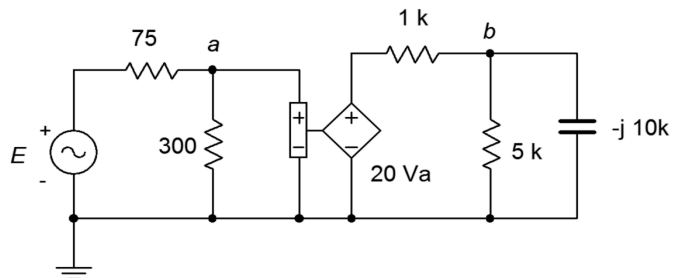

Figure 5.19
37. In the circuit of Figure 5.19, determine the current flowing into the 1 k resistor if the source $E = 6\angle 0^\circ$.
38. In the circuit of Figure 5.19, determine v_b if the source $E = 12\angle-90^\circ$.